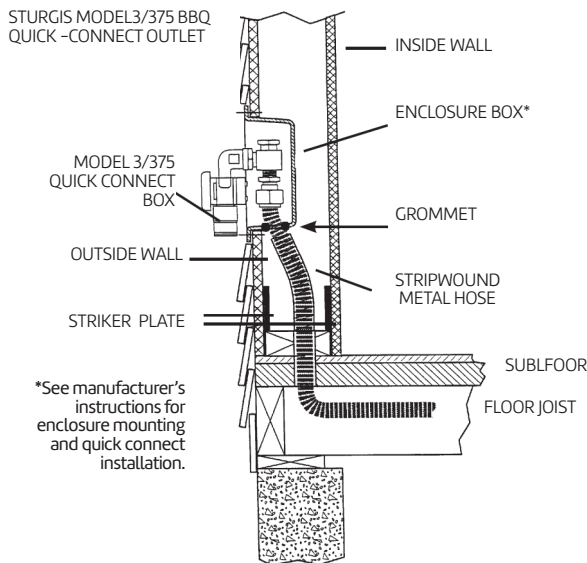

Figure 4.20
- A. Movable grills shall be connected using an approved outdoor appliance connector which shall be attached to the CSST system at either a termination fitting, quick disconnect or other rigidly mounted transition fitting (Figure 4.20). An approved outdoor appliance connector shall be used to connect the appliance to the gas piping system.